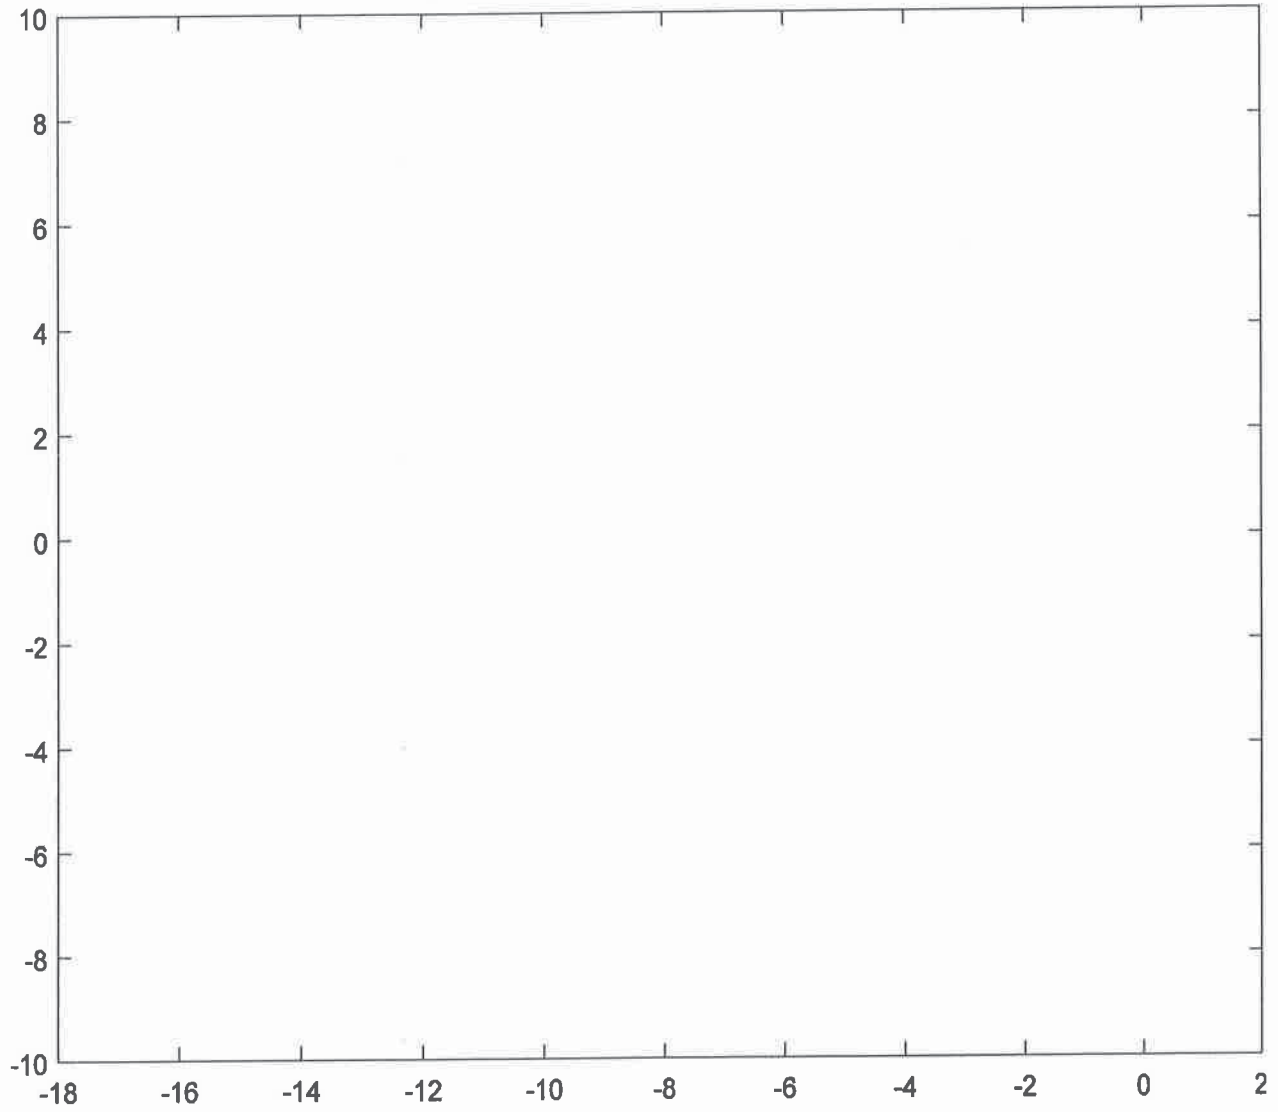

Figure Q7.2 – Root Locus of the System in Question 7
- 1) **(10 marks)** Sketch the Root Locus for the system, in the space provided in Figure Q7.2. Calculate all relevant coordinates: asymptotic angles, break-in/away points, the location of the centroid and the coordinates of the crossover with the Imaginary axis, i.e. ω_{osc} and the corresponding value of the critical gain, K_{crit} , at which the system becomes marginally stable.